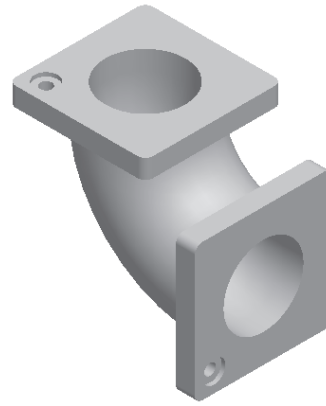

Figure 7-94 One hole each on the two extruded features
10. Create another hole on the fourth feature using the same procedure as discussed above. The default trimetric view of the model that is completed until now is shown in Figure 7-94.